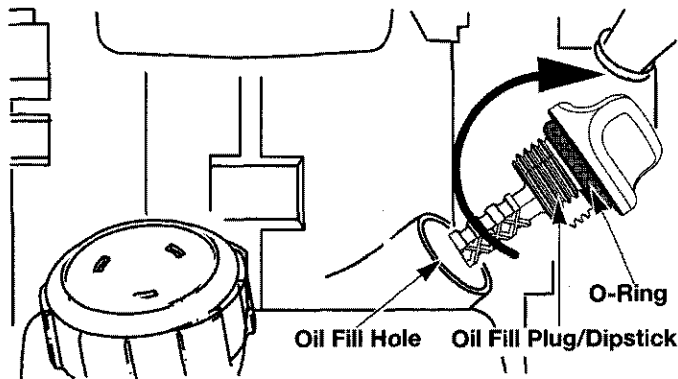

Fig. 2
3. Remove the oil plug / dipstick from the crankcase (Fig. 2).